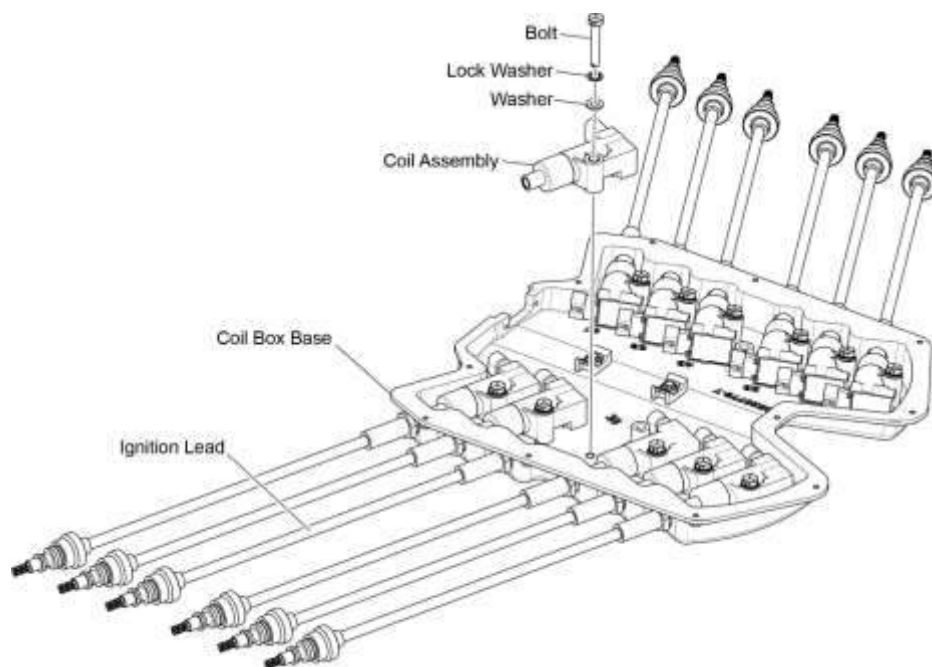

Figure 2
NOTICE: Make sure all bolts (Figure 2) are correctly torqued and all ignition leads are secured before installing the coil box lid.
- (1) Remove coil box lid per instructions in the “Coil Box Access” section in this chapter.
- (2) Remove the harness connector from the coil assembly.
- (3) Remove the bolt, lock washer, and washer (Figure 2) from the coil assembly to be removed. Discard the lock washer.
- (4) Slide the coil assembly horizontally towards the center of the coil box bottom half to let the coil assembly slide out of the silicone seal on the ignition lead.
- (1) Apply a light coat of lubricant (petrolatum or DC-4) to the mating surface of the coil assembly.
- (2) Install the coil assembly in the coil box base (Figure 2) and slide it horizontally into the silicone seal on the ignition lead.
- (3) Install the bolt, new lock washer, and washer to attach the coil assembly to the lower half of the coil box. Torque the bolt to the specified limits in the Standard Torque Tables in the latest revision of the **Service Table of Limits - SSP-1776**.
- (4) Install the harness connector to the coil assembly.
- (5) Install the coil box lid per instructions in the “Close the Coil Box” section in this chapter.
- (6) Connect the battery.
- (7) Complete the operational test in Chapter 72-00.